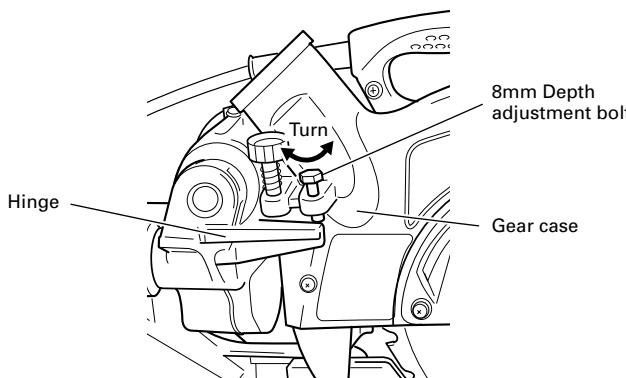

Fig. 10-b
**NOTE:** When cutting a workpiece exceeding 2-9/16" (65mm) in height in right-angle cutting or 1-25/32"(45mm) in left bevel angle cutting or 2-3/8" (60mm) in right bevel angle cutting, adjust the lower limit position so that the base of the motor head (see Fig. 10-a) will not come in contact with the workpiece.